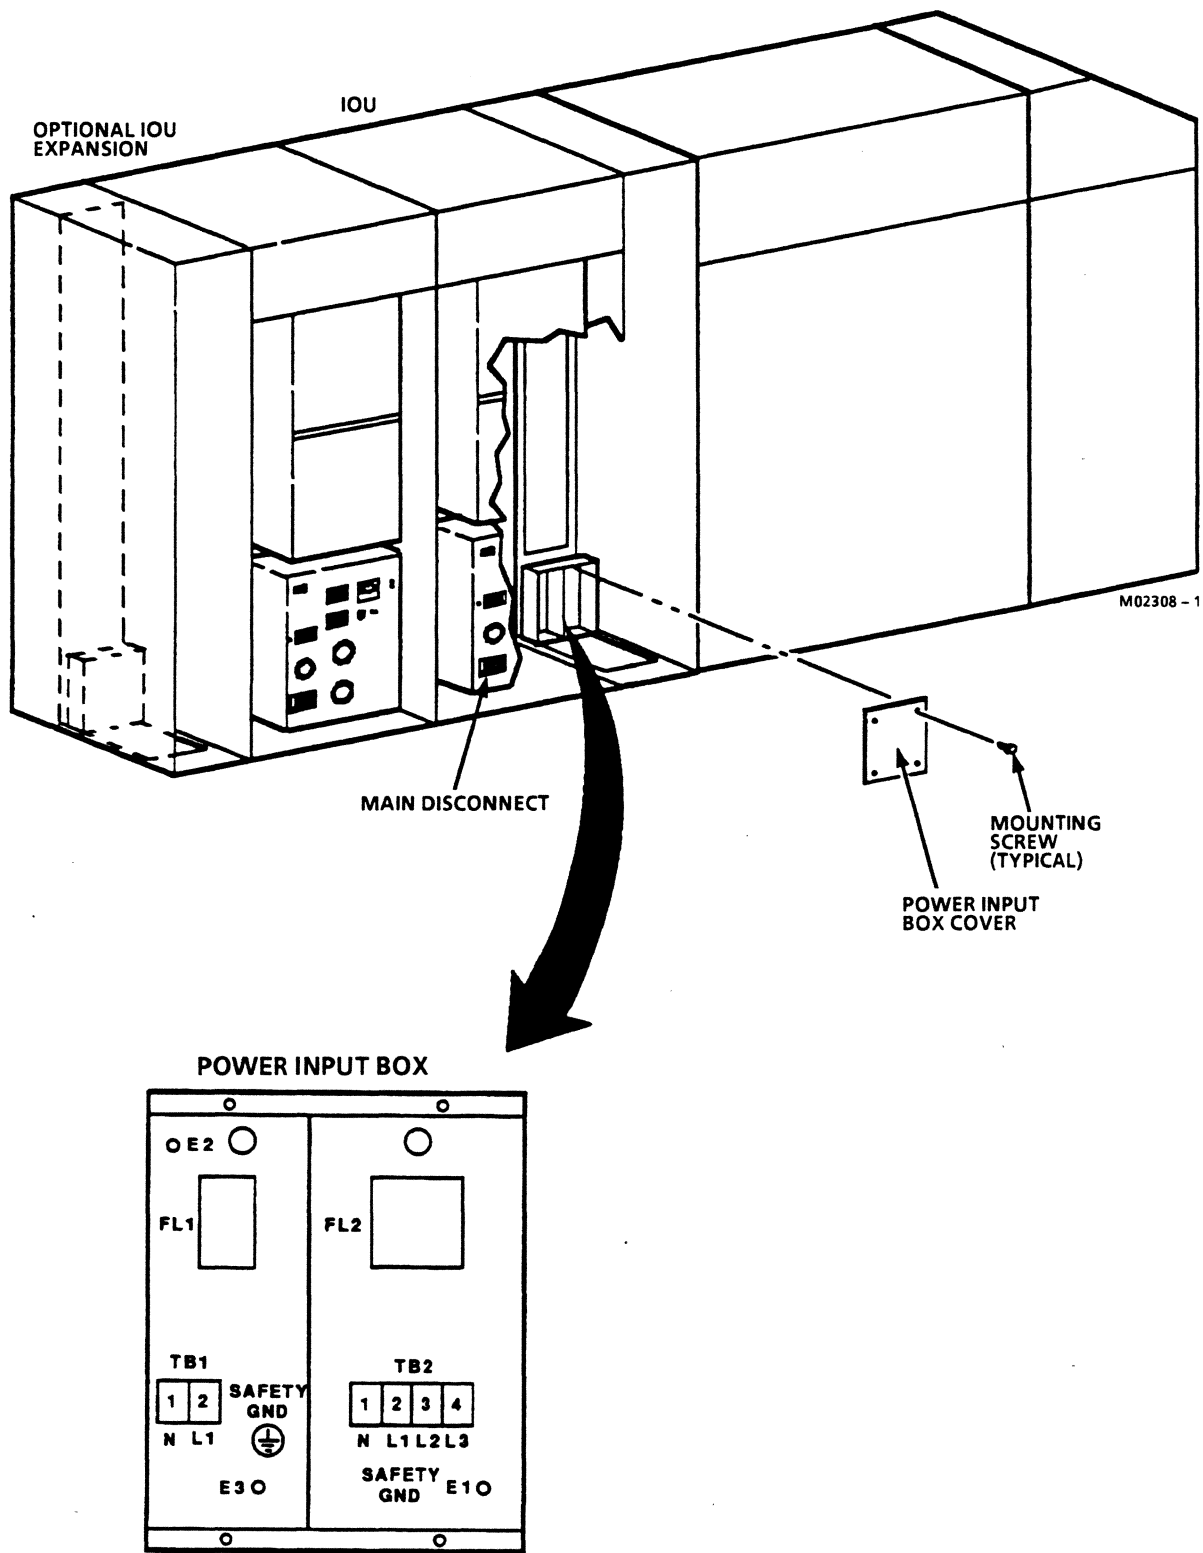

Figure 2-63. IOU 400-Hz Voltage Check
- ___ 3. Use voltmeter to check 3-phase, 400-Hz voltage is present at power input box TB1 between N (neutral) and L1, L2, and L3 (figure 2-63). Nominal voltage is 120 V.